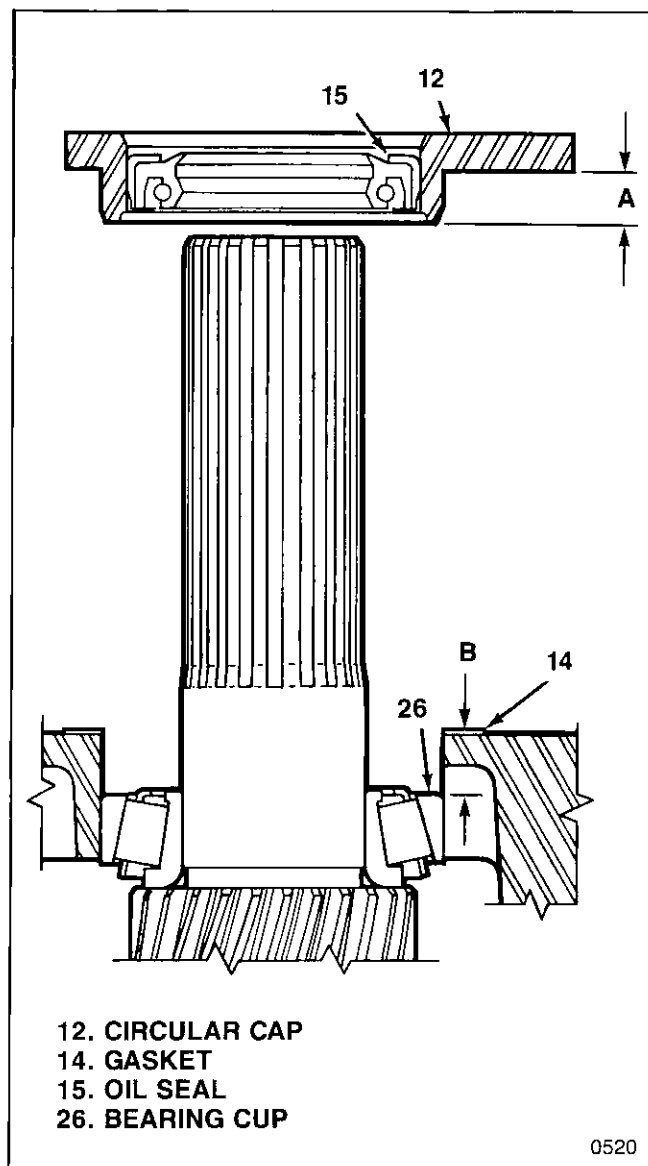

Figure 5-11. Bearing Cap Shim Measurements
2. If removed, press new needle bearing (22) in to bottom in adapter (21) using suitable drift.
3. Position gasket (23) on mounting face of case assembly for adapter. Install adapter (21) on case assembly (71), over input and output shafts and engaging end of idler gear in needle bearing (22) in adapter.
4. Attach adapter (21) with six bolts (19), two bolts (18), eight lock washers (20) and eight nuts (17). Torque to 10-12 lb-ft (13.6-16.3 Nm).
5. Press new oil seal (15) into circular cap (12). Installed seal shall be positioned as shown in figure 5-11.
6. Determine thickness of shims (16) required to properly preload roller bearings under square cap (13) and circular cap (12):
b. Position two gaskets (14) on adapter, one at each cover position.
c. At each cap and bearing cup take measurements A and B as shown in figure 5-11 using depth micrometer.
NOTE: Figure 5-11 shows circular cap (12) but is typical for both caps. Take separate measurements and calculate shim thickness for both caps.
d. Calculate thickness T of shims (16) required at each cap as follows: